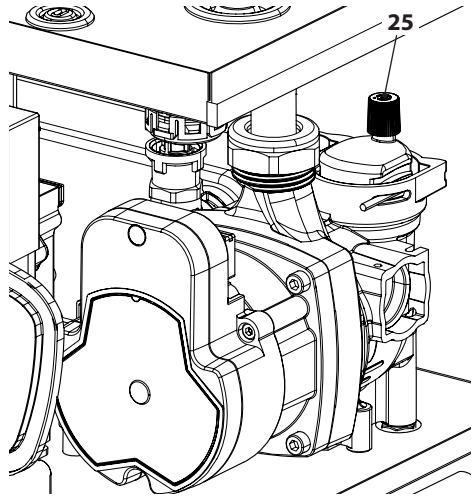

Figure 6.3
- Loosen the automatic bleed valve cap 25 in Figure 6.3.